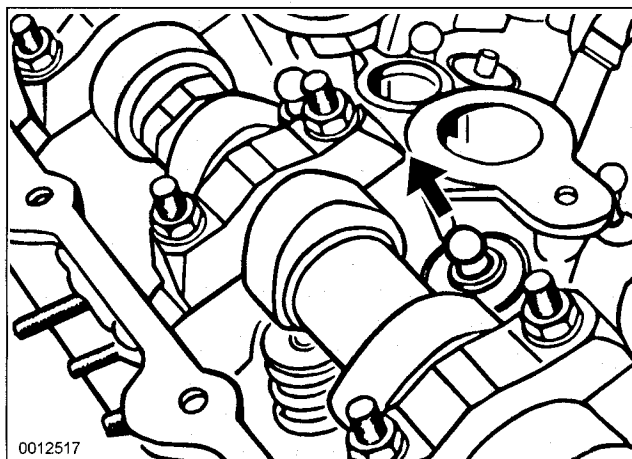

Fig. 13. Remove hydraulic valve adjuster by pulling straight out of cylinder head (arrow).
5. Pull hydraulic valve adjuster straight out of cylinder head. See Fig. 13.